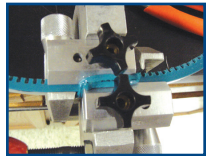

Fig. 5
- After a maximum of 20 seconds (less for smaller profiles), turn large wing nut counterclockwise 3-4 full turns. Pull back on red knob until front (sliding) die stops. Push down on black knob on top of welder; on back of welder, slightly push on the two guide rods to move coated heating element. Pull brass pin out and release coated heating element. Swing heating element away from die area. Immediately push red knob forward and quickly spin large wing nut clockwise until stop is reached. See Fig. 5.